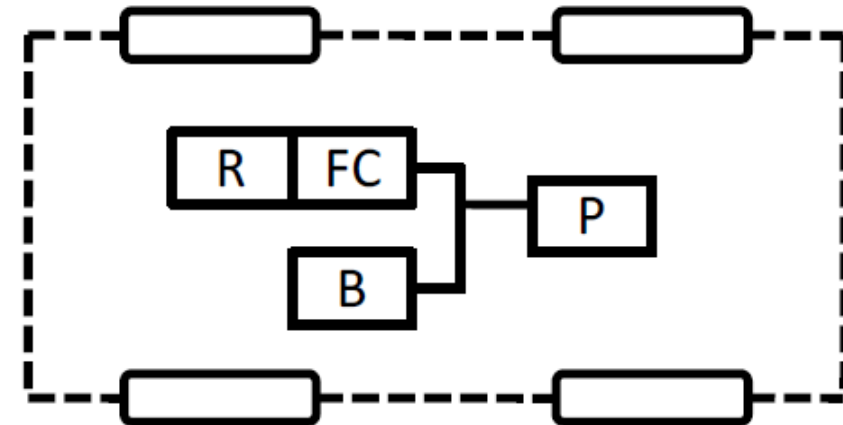

Figure 4d: EV configuration with multiple energy sources [1]
4. Configuration 4: Figure 4d.